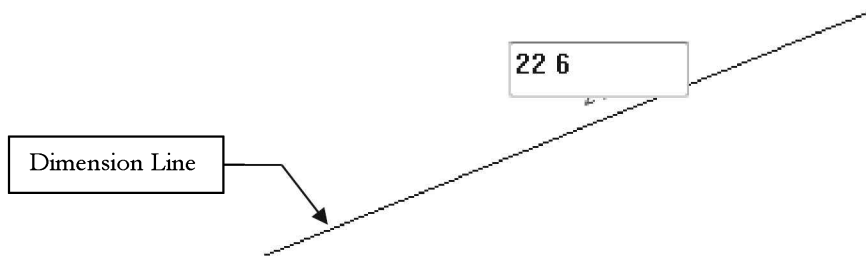

FIGURE 3-1.8 Editing dimension to change line length
16. Type **22 6** (i.e., 22 space 6) and press **Enter** (Figure 3-1.8).